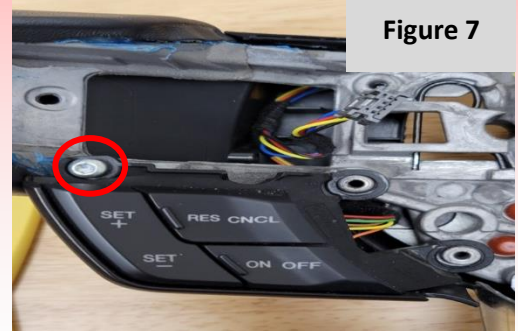

Figure 7
7. Next, remove the green electrical connector on the back of the bezel (**Figure 8**) by pushing down on the center tab to disconnect the connection. Then, remove the (x1) T20 Torx bit screw to release the lower section on controls on the right-hand side (**Figure 7**). Note that the lower controls are not removed from the harness.
19. Reinstall the right and left-hand lower controls (**Figure 7**) to the aftermarket steering wheel core. First, by reconnecting the upper switch bank connectors removed in Step 8/9, and then securing the lower (x1 per side) T20 Torx bit screws. Torque to 44lb-in (5 Nm).